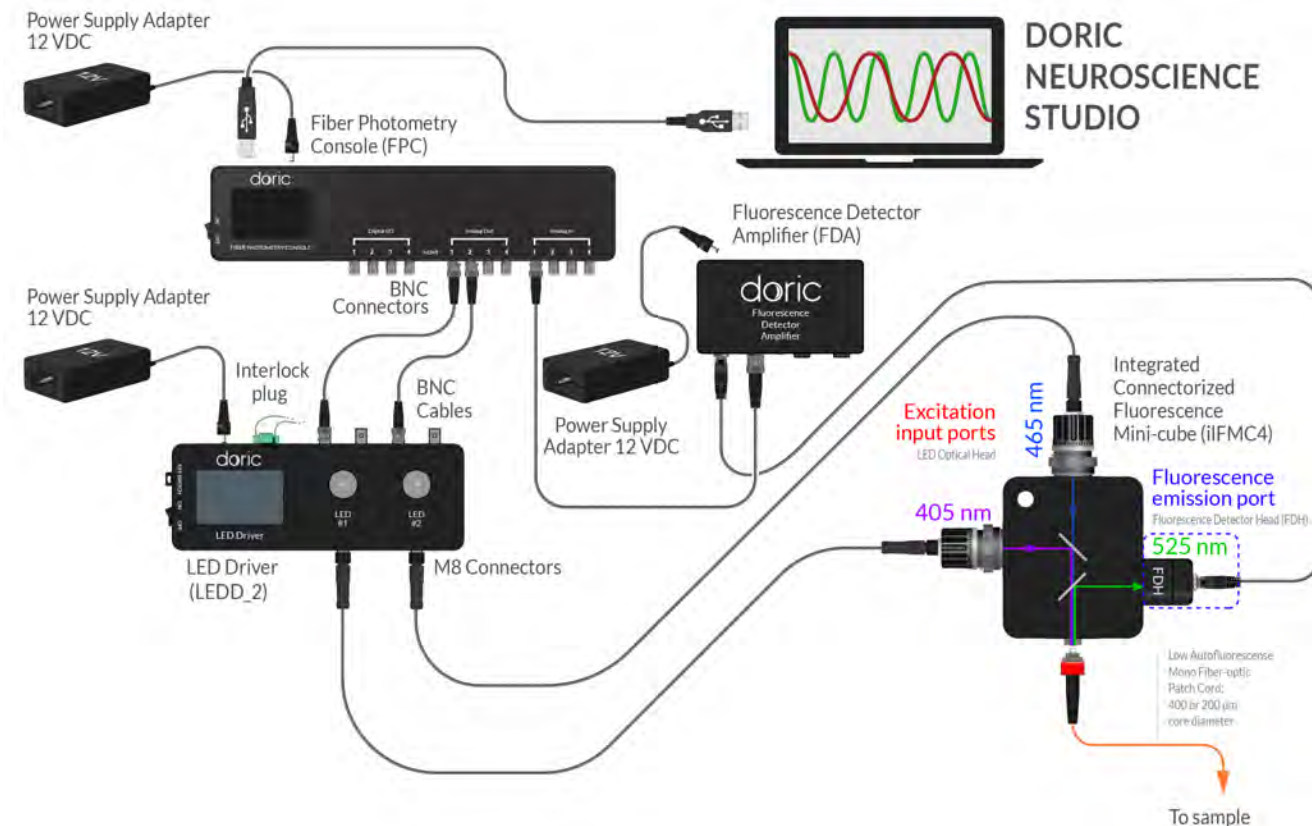

Figure 2.5: 2-signal demodulation setup
8. The **Sample (S)** port of the *4-channel Fluorescence Mini Cube* connects to the subject using an optical fiber.
9. Connect the *Built-in Fluorescence Detector Head* of the **Fluorescence (F)** port to the *Fluorescence Detector Amplifier*.
10. Connect the *Fluorescence Detector Amplifier* BNC port to the corresponding input on the *Fiber photometry console* using a BNC cable (Fig. 2.5).